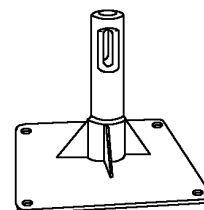

Fig. 5
- Stand percussion mechanism of HM 1000 vertically and secure against falling over (e.g. place on a stand similar to that in Fig. 5).
- Stand hydraulic hammer vertically and secure against falling over (e.g. on a stand similar to Fig. 5), or lay flat.